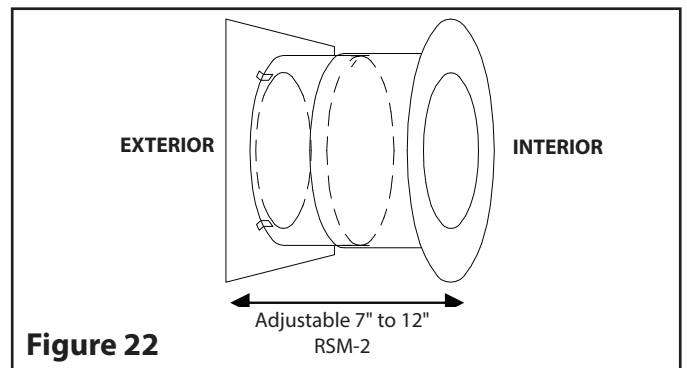

Figure 22
Step 2. Wood walls: Place the exterior half of the Wall Thimble (RSM-2) in the opening from the outside. Nail in place using (4) 2" nails or 1" screws. This Wall Thimble is adjustable from 7" to 12" (see **Figure 22**). Make sure the insulation pad is cut to the desired length according to the wall thickness. Place the interior half of the Wall Thimble inside the exterior half of the Wall Thimble. For walls thicker than 12", a shield extension can be field-fabricated using minimum 26-gauge galvanized sheet metal.